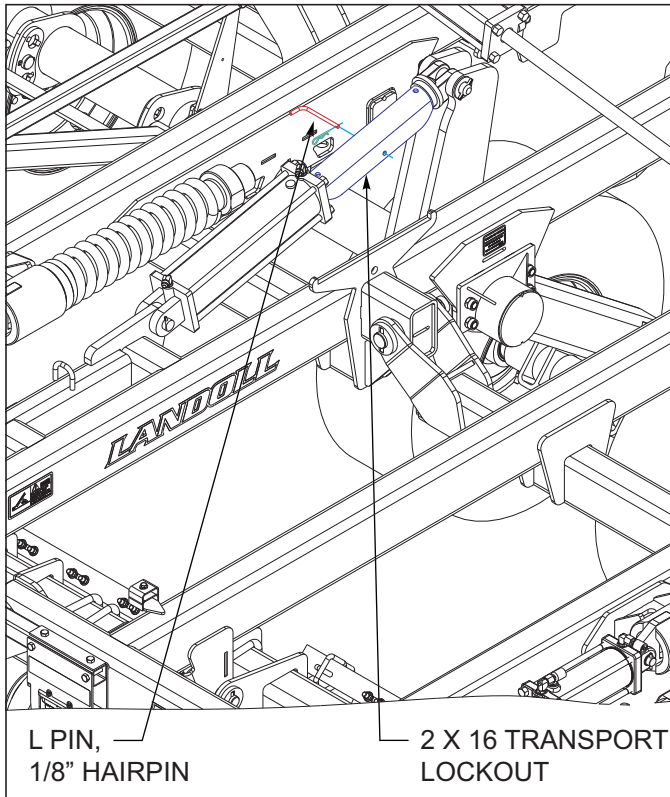
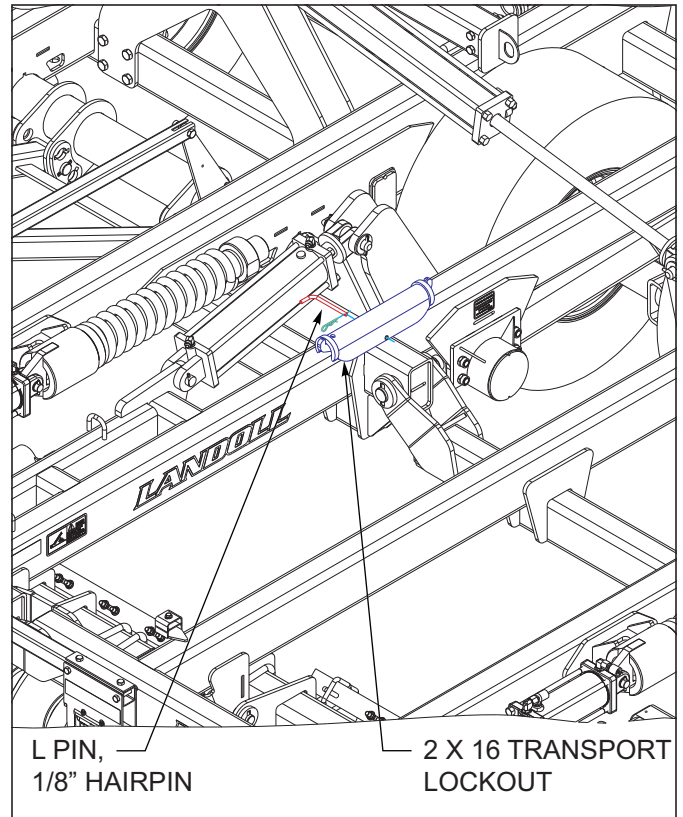

Figure 4-2: Installed Transport Locks
Figure 4-3: Stored Transport Locks
2. The hydraulic system is not filled with oil and should be purged of air before transporting and field operations. Carefully hitch the Coulter Chisel to the tractor and connect the hydraulic lift hoses. Check to make sure the tractor hydraulic reservoir is full of the manufacturer's recommended oil. Slowly raise the machine, and continue to hold the hydraulic lever until all lift cylinders are fully extended. With all cylinders fully extended remove the 2 X 16 transport lockouts *See Figure 4-2*. Store transport lockouts as shown *See Figure 4-3*. Lower and raise the unit to verify that all cylinders are working simultaneously throughout the stroke. If the cylinders are not working evenly or together, fully extend the lift cylinders and continue to hold the lever to purge any remaining air. Do not loosen any hoses or fittings. Recheck tractor reservoir to make sure it is within operating limits.
1. Raise the unit to take the weight off of the transport locks. Remove the transport locks from the lift cylinders (on the main frame only). Store the transport locks on the retainers above the main lift See Figure 4-3.